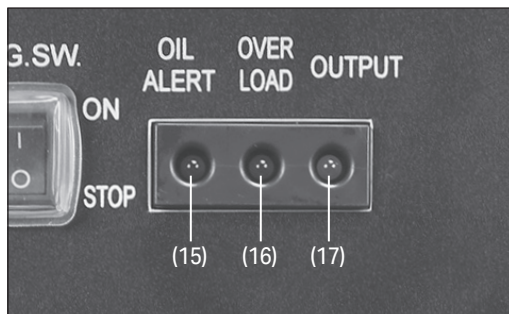

Fig. 14
7.7 Status Indicators and AC Overload Cut-Out (Fig.14)